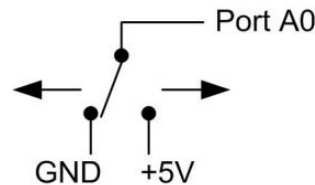

Figure 8. Schematic showing switch detection by digital channel Port A0
When configured for input, you can use the digital I/O terminals to detect the state of any TTL level input. Refer to the schematic shown in Figure 8. If the switch is set to the +5 V input, Port A0 reads *TRUE* (1). If you move the switch to GND, Port A0 reads *FALSE*.